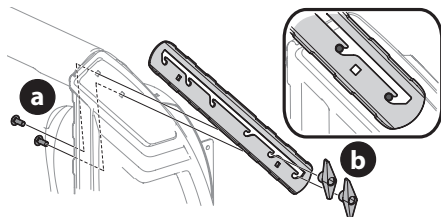

Figure 42
1. Loosen the two carriage bolts (a) and wing knob (b) that secure each drift cutter to the sides of auger housing (Figure 42).